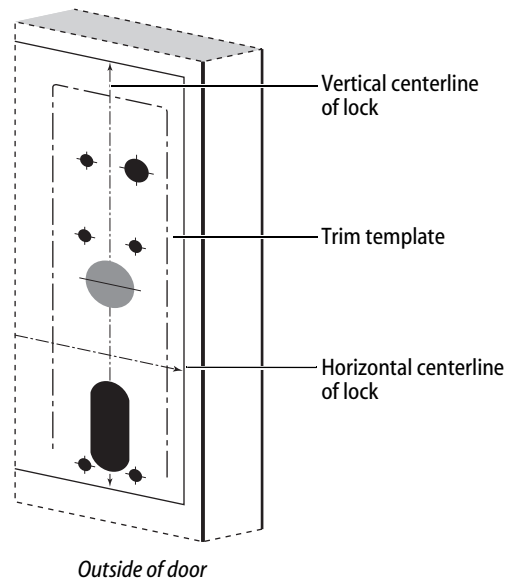

Figure 3 Positioning the trim template
- b Align the horizontal and vertical arrows marked on the template with the centerlines marked on the door. See Figure 3.